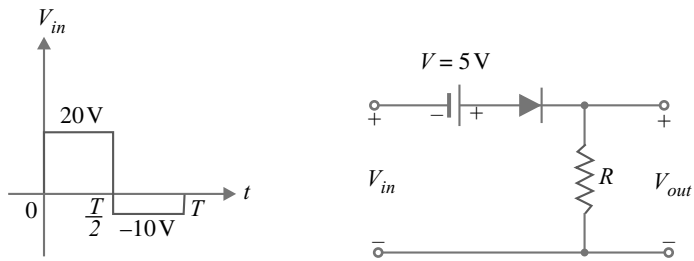

Fig. 16.78
5. Determine the output waveform for the clipper network shown in Fig. 16.78.